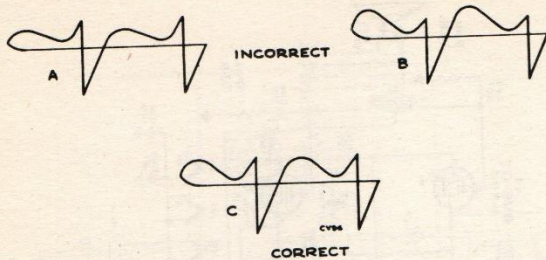

Fig. 10—Horizontal Oscillator Waveforms
A.—Connect the low capacity probe of an oscilloscope to terminal C of T108. Turn the horizontal hold control one quarter turn. The pattern on the oscilloscope should be as shown in Figure 10. Adjust the Oscillator Waveform Adjustment Core of T108 until the two peaks are at the same height. During this adjustment, the picture must be kept in sync by readjusting the hold control if necessary.